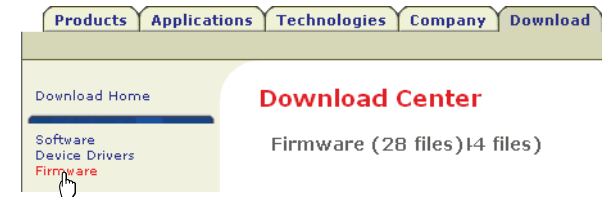

Figure 3-4 — Location of firmware upgrade files
1. Visit the Extron web site, www.extron.com, click the **Download Center** tab, and then click the **Firmware** link (figure 3-4). Select the appropriate firmware file(s) to download and copy it (them) to your computer. Note the folder to which you save the firmware file(s).